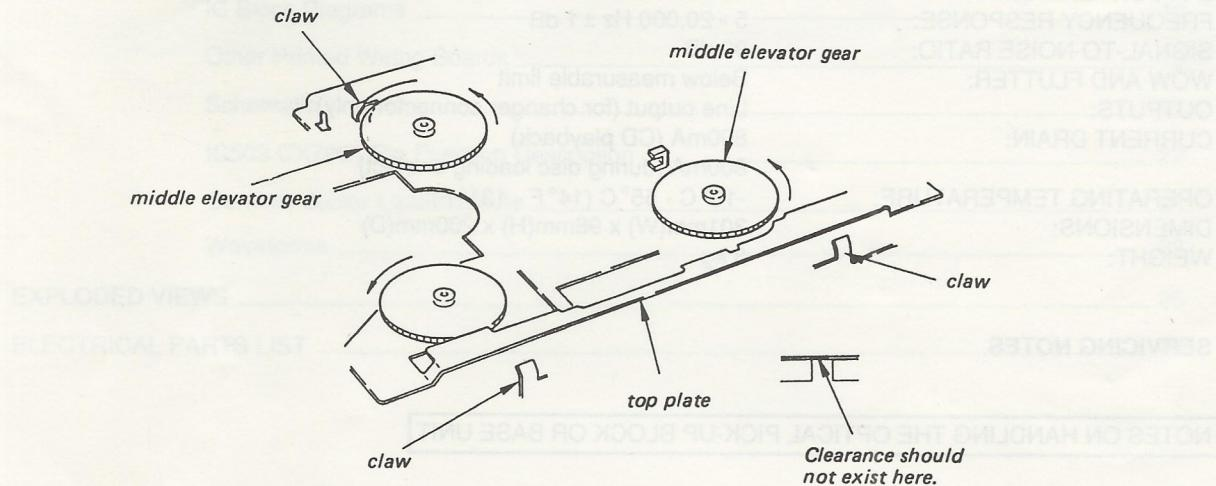

Fig. 1
2. Put the large elevator gear on the shaft of the top plate taking care not to move the middle elevator gears. The large elevator gear should be fastened by the top plate and EHS protrusion and should position in the relationship with the EHS as shown in Fig. 1.